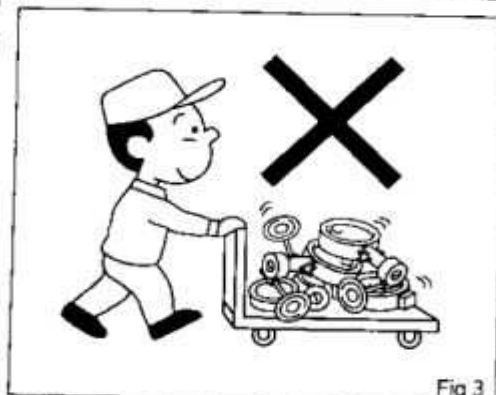

Fig 3
- **Cares while handling** : When valve to be kept/stored under packed condition, package(s) to be put on stable place so that collapse of package(s) to be avoided. Upon carriage, valve to be nicely loaded so that any collapse to valve could be avoided. When valve to be carried after removing packing, excessive force to valve to be avoided and cover-sheet to be put onto valve in dusty-place. (Fig 3)